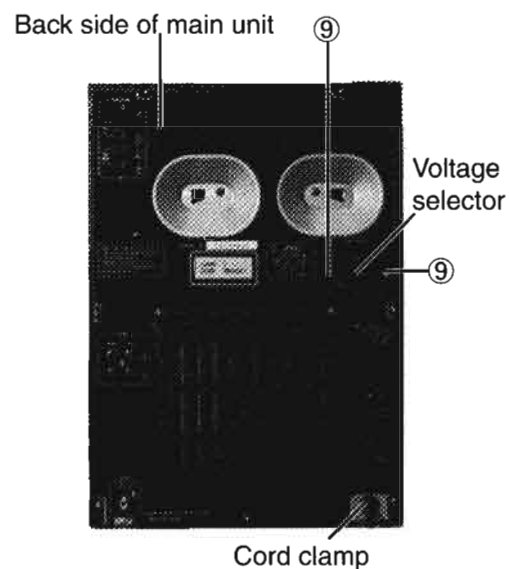

Fig. 8
■ Removal of the PowerTransformer Assembly (See Figs 8, 9)
4. Remove the two screws ⑨ fastening the voltage select switch to the back side of the main unit.(See Fig.8)